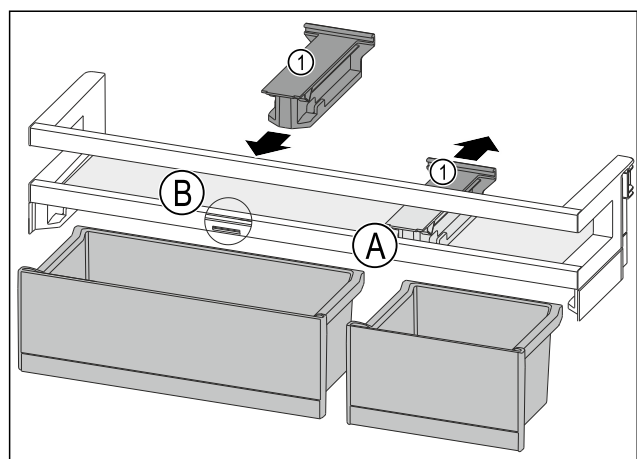

Fig. 80
- ▶ Take off the holding part Fig. 80 (1) in position Fig. 80 (A) backwards.
- ▶ Insert the holding part Fig. 80 (1) in position Fig. 80 (B).